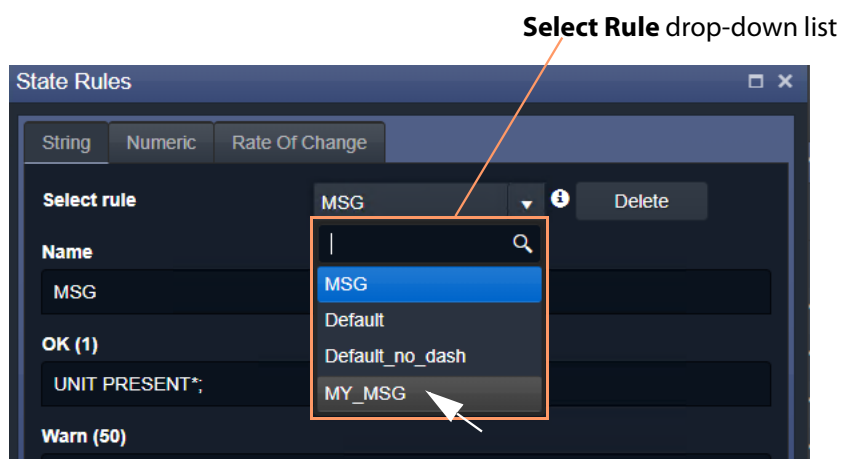

Figure 78: Select Rule Drop-Down List
- 3 Select the state rule to edit from the **Select Rule** drop-down list. See Figure 78.